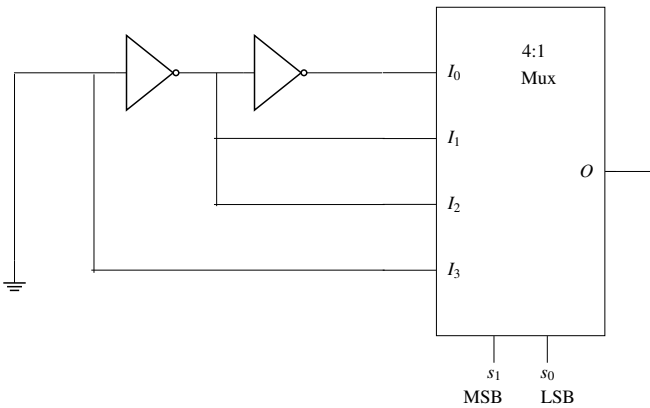

Fig. 3.28: Circuit Diagram
45. The Boolean operation performed by the following circuit in Fig. 3.28 at the output  $O$  is \_\_\_\_ (GATE IN2020 – 12)